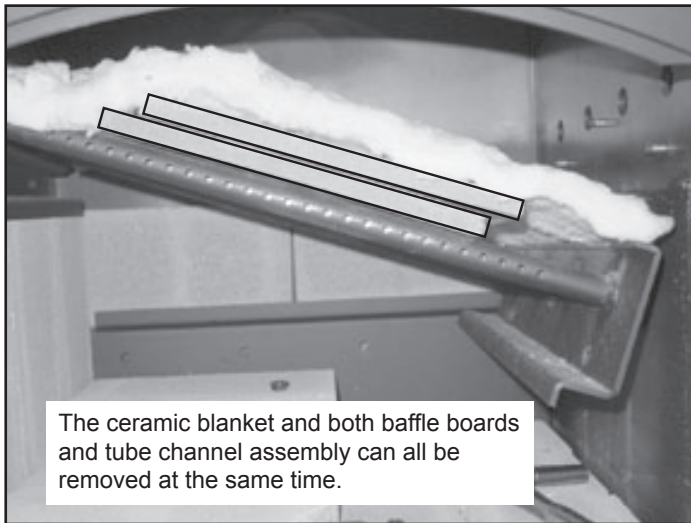

Figure 27.1
2. The baffle board has 2 pieces. With the ceramic blanket still in place, slide one baffle piece over the top of other one but still keep it all components inside the firebox (**Figure 27.1**).